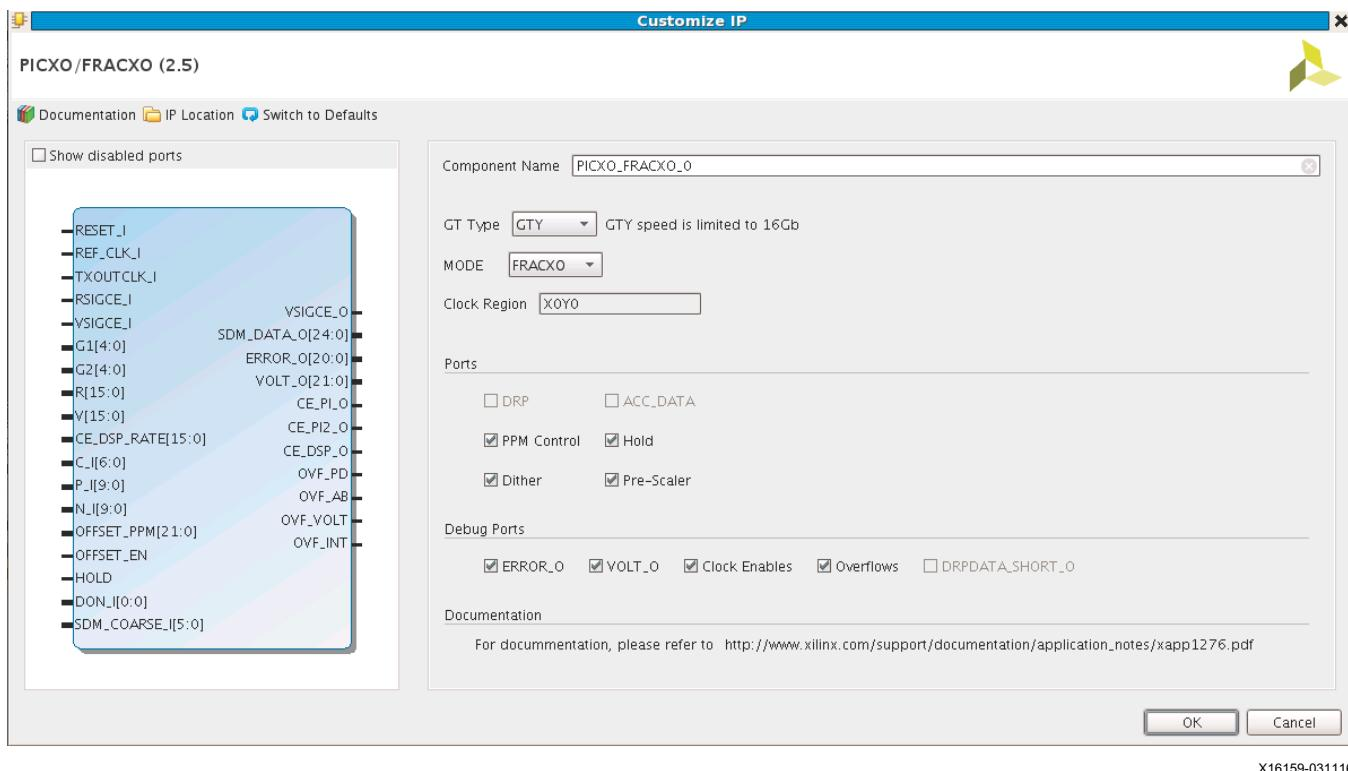

Figure 20: Customize IP
5. Select the IP module name, the type of GT, and the FRACXO mode. Click **OK** (Figure 20).